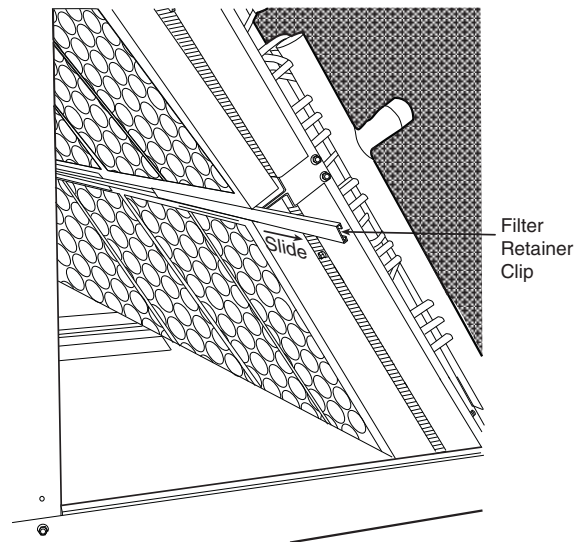

Fig. 40 — Remove Filter Retainer Clip
2. Remove the filter retainer clip (see Fig. 40).